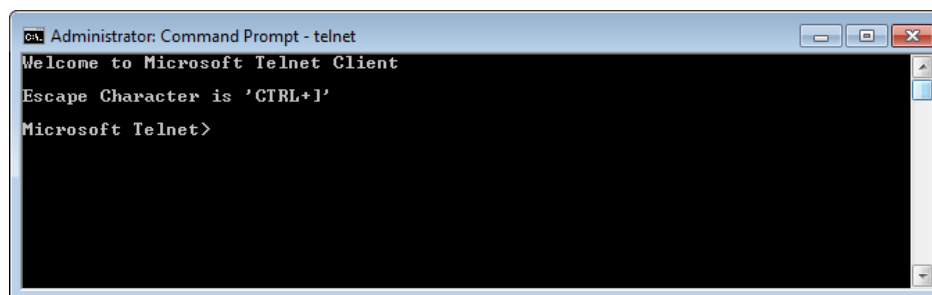

Figure 67. Telnet Screen
3. At the prompt, enter `telnet`. A display similar to **figure 67** opens.